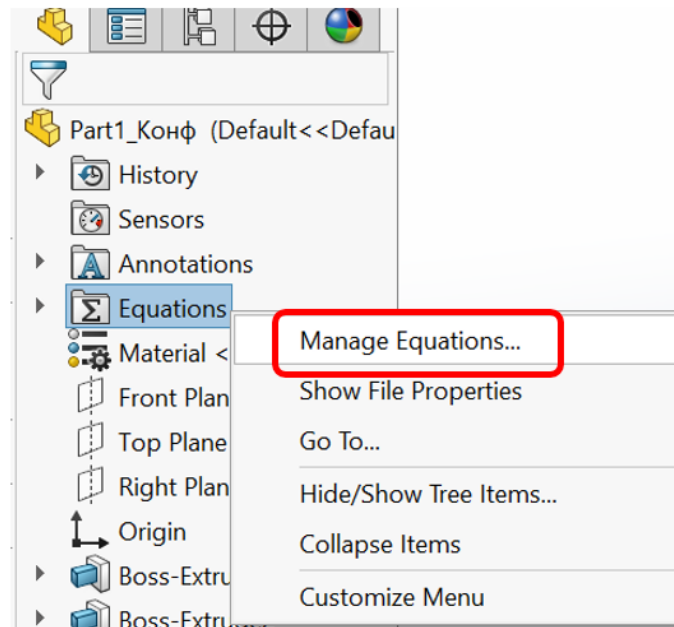

Figure 32 – Access to editing the parameter equation table
- right-click on the *Equations* section in the *FeatureManager* and choose *Manage Equations* (Fig. 32);